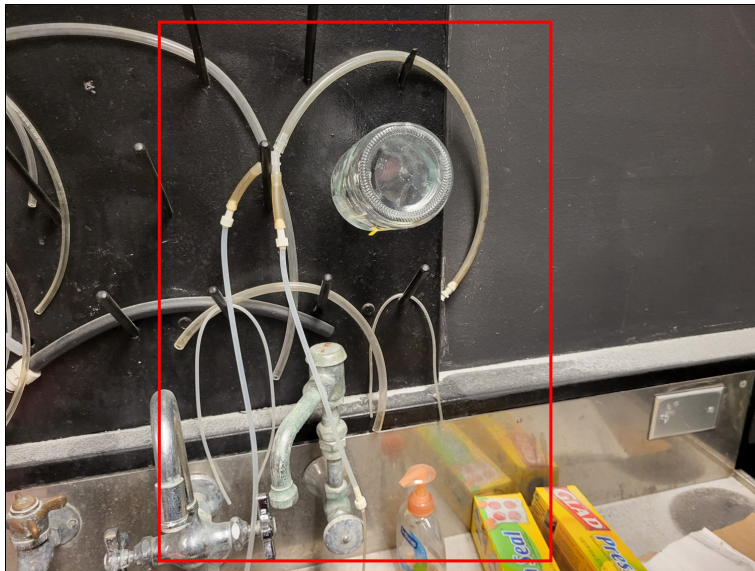

Figure 6: The tubing is hung up by the sink to drain and dry.
1. Find the vacuum tubing 'Y' that is hung on pegs over the sink. See Figure: 6.
6. Insert the needle into the slot on the perfusion chamber. See Figure: 6 **red line**.